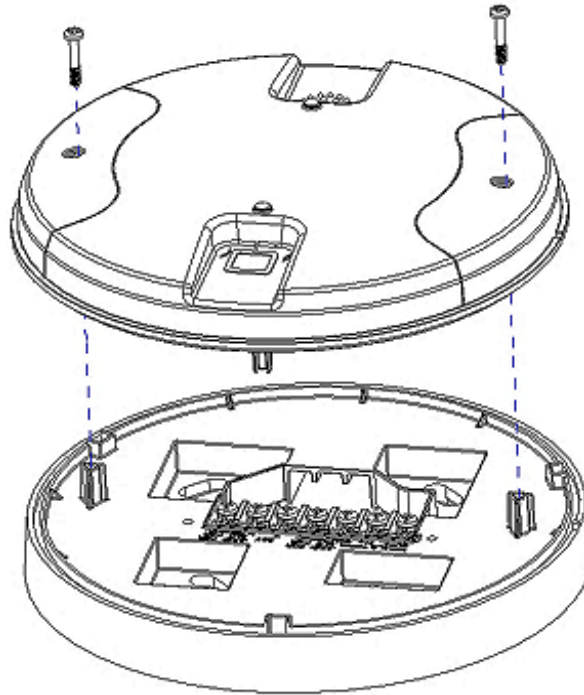

Figure 3.3 Cover Attaching to Mounting Plate
5. To mount the cover, align the locating pins on the cover to the corresponding slots in the mounting plate. See Figure 3.3, "Cover Attaching to Mounting Plate".